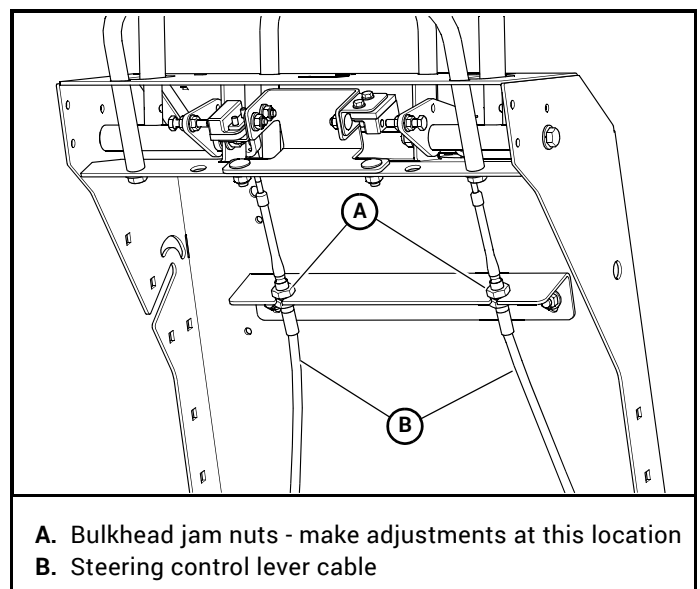

Figure 4-2
5. Observe which way the wheel(s) are rotating. If wheel(s) are rotating forward, adjust with the jam nuts on the upper bulkhead fitting of the cables. Adjust the cable to lengthen the steering control linkage until the wheel(s) come to a stop. Figure 4-2
6. If wheel(s) are rotating in reverse adjust the cable to shorten the steering control linkage until the wheel(s) come to a stop. Figure 4-2